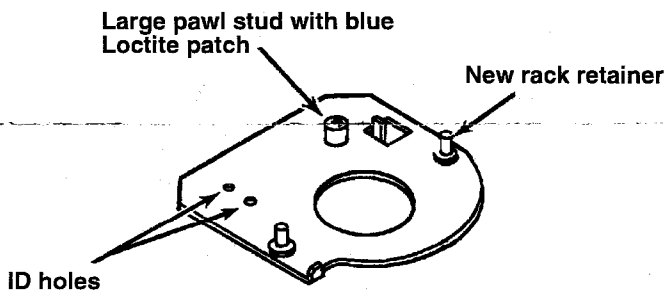

Figure 2
2. If the answer to number 1 is yes, then use new retainer rack and large pawl stud with blue Loctite patch. See Figure 2.